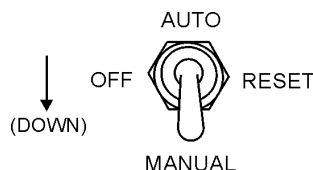

Figure 54. Auto-Off/Reset-Manual Switch
11. Turn the Auto-Off/Reset-Manual switch to 'Manual' to start the engine (Figure 54). Once the engine starts, let the engine run for 1-2 minutes. Listen for any abnormal noises.